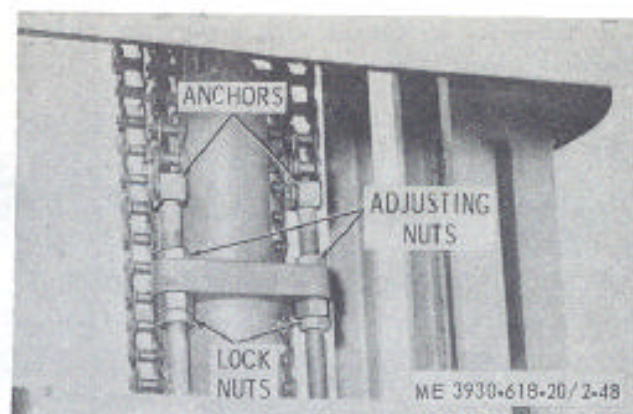

Figure 2-48. Lift chain adjustment.
c. *Adjustment.* When it is apparent that the carriage assembly is not level or the forks do not touch the floor when the lift cylinder is fully retracted, the lift chains must be adjusted. Refer to figure 2-48 and proceed as follows:
- (1) Make sure that the mast is vertical and the inner mast and lift cylinder are fully retracted.
- (2) Loosen the locknuts and adjusting nuts at the chain anchors on the lift cylinder.
- (3) Adjustment is made by turning the adjusting nuts. Tighten or loosen one side and then the other until the chains are a snug fit.
- (4) Make sure the tension is equal and the carriage assembly is level.
- (5) Tighten locknuts. Make sure the adjustment is not disturbed.